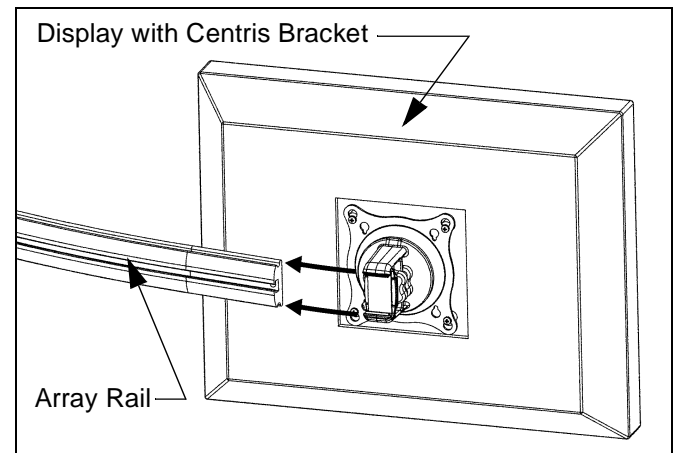

Figure 9: Mount Display with Centris Bracket to Array Rail
7. Slide display with Centris bracket onto mounting rail. (See Figure 9)